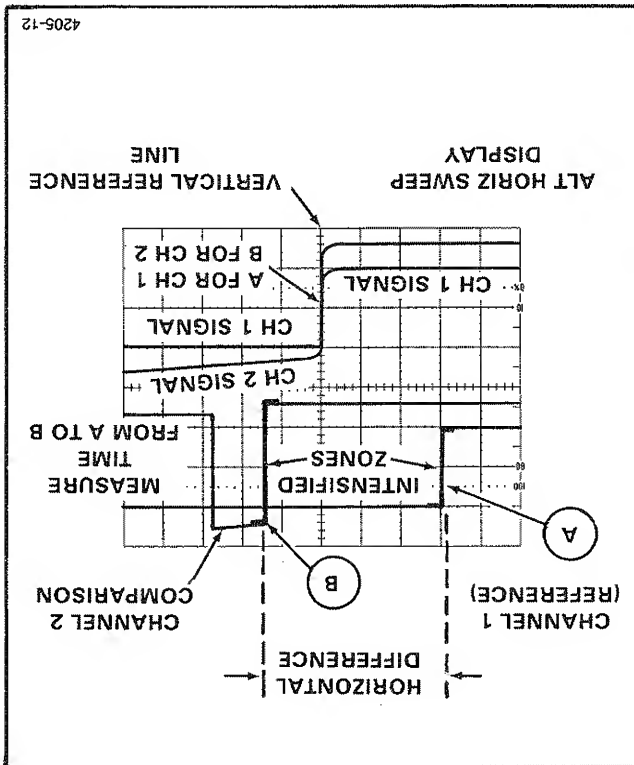

Fig. 4-8. Time difference between points on two time-related signals in nonttriggered mode.
10. Adjust the B DELAY TIME POSITION control to move the reference zone to the reference signal on the CH 1 A trace (see Figure 4-8).
11. Adjust the Δ TIME POSITION control to move the comparison zone to the comparison signal on the CH 2 A trace (see Figure 4-8).